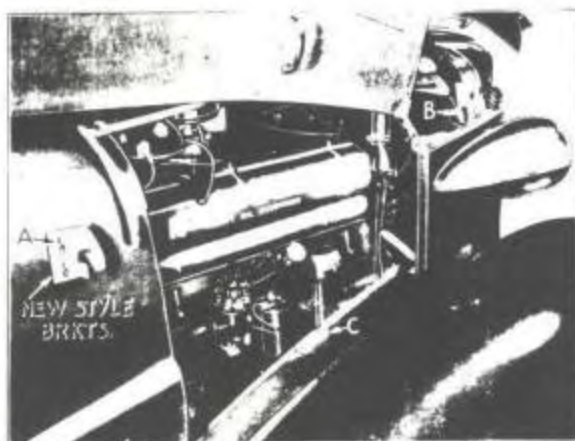

Fig. 65
1. Lower front and rear hood catch bracket "A" and "B" in Fig. 65 to extreme end of slot as shown.
2. Adjust center bracket "C" Fig. 65 in or out to give correct tension and easy hood handle operation.